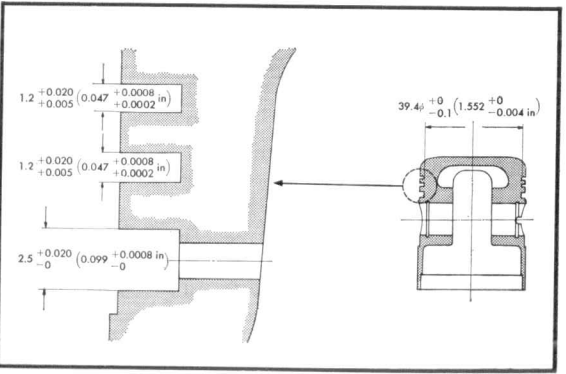

Figure 3-50. Piston ring groove dimensions
- (6) Piston ring, compression, [] are for C50, C50M, S50 (Fig. 3-50, 3-51)